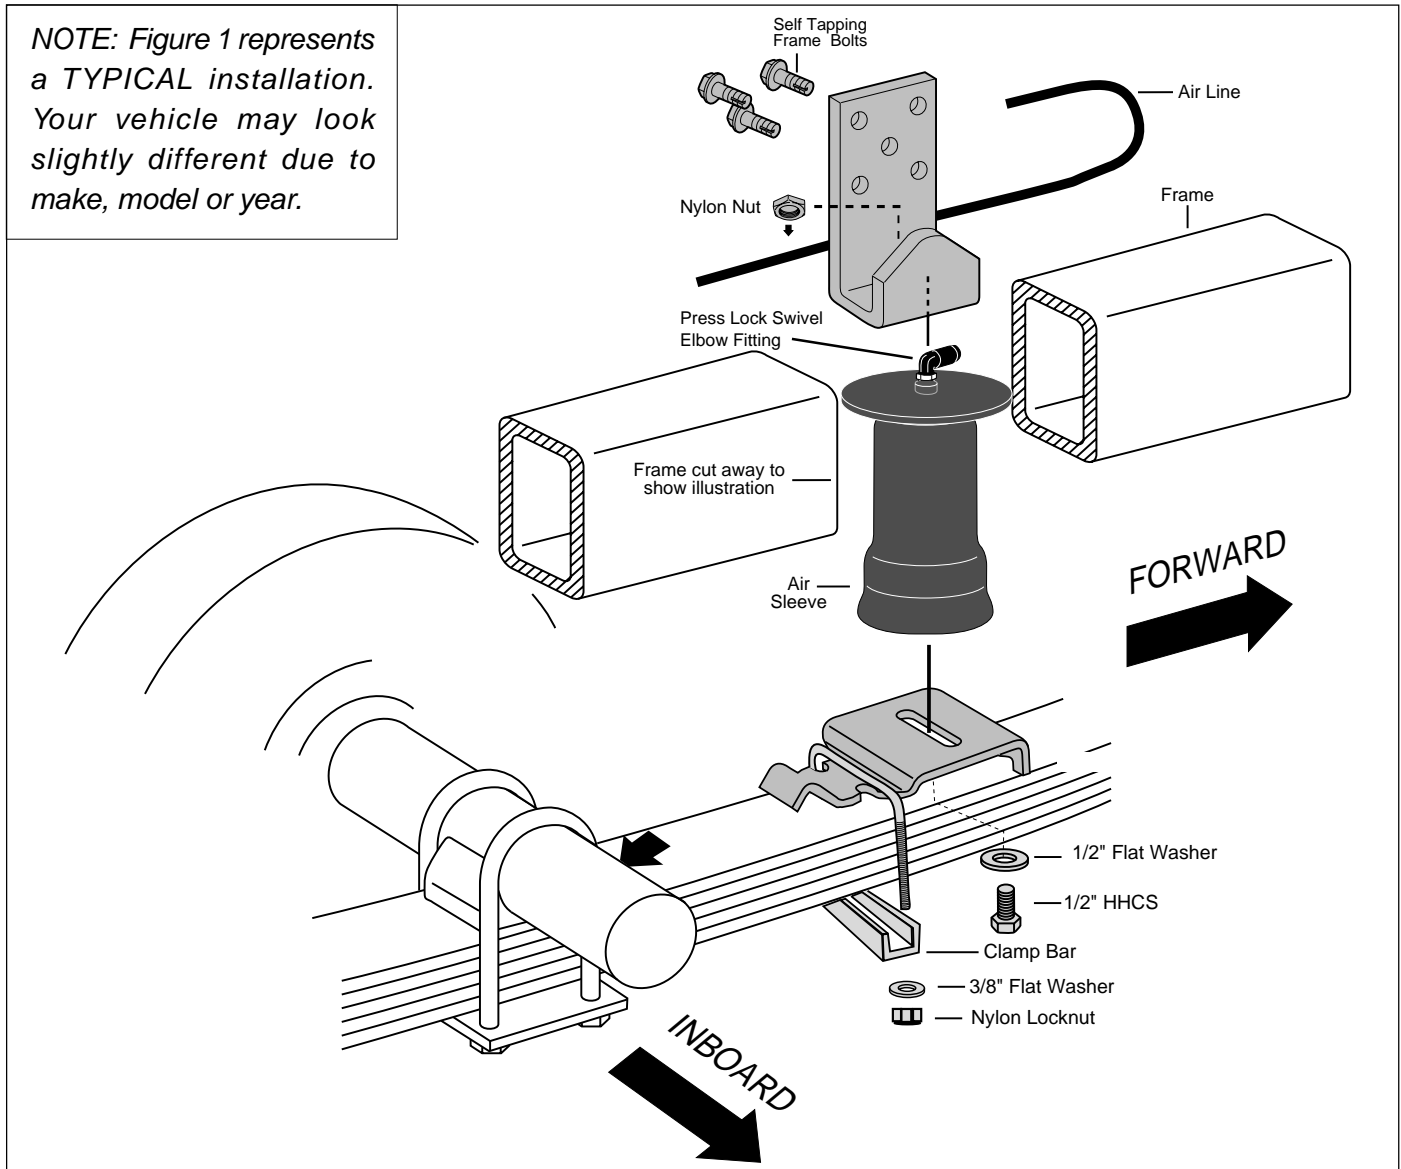
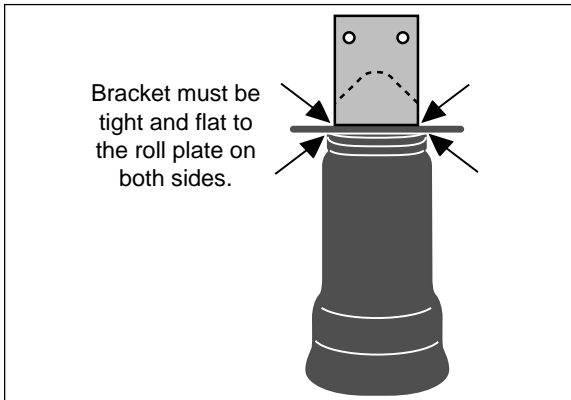
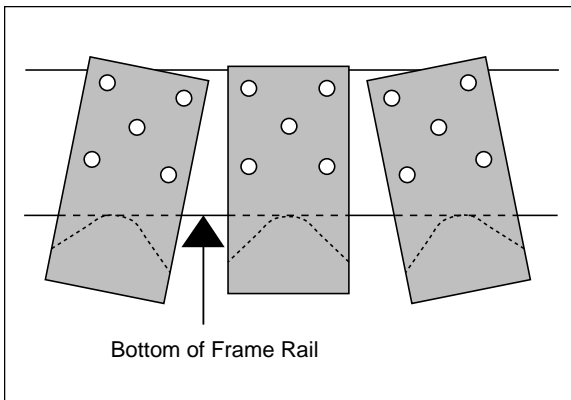
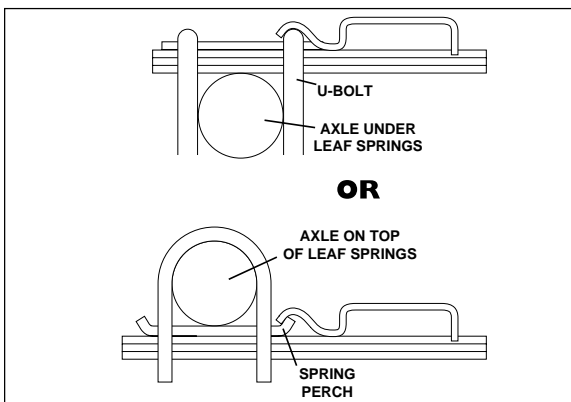

Figure 1
Figure 3
Figure 4
Figure 5
2. Install swivel air fitting to the top of the sleeve and tighten finger tight plus 1 1/2 turns. Use a 7/16" open end wrench being careful to tighten on the metal hex nut only. *Do not overtighten.* This fitting is pre-coated with thread sealant. Now set the upper bracket onto the thread post of the air spring. Thread nylon nut onto the thread post with the flat side up. The bracket must be tight and flat to the roll plate on both sides. Hand tight is sufficient (Figure 3). Be sure the swivel air fitting faces the front of the vehicle. *Loosely* attach the lower bracket to the bottom of the air spring (Figure 1).
3. Set the assembly on the leaf spring in front or behind depending on what would interfere with function of kit. It is permissible to stagger kit also, in case shocks or brake lines that interfere with kit. The lower bracket has a "finger" that is designed to "hook" around something like a U-bolt, spring retainer, or spring perch (Figure 5). This keeps the lower bracket from "walking" up the spring which would cause damage to the air springs. If the vehicle does not have something for the "finger" to "hook" to, install the L-bracket supplied in this kit for that function. Refer to SB-171 for instructions on how to install the L-bracket. With lower bracket in place install U-bolt, clamp bar, flat washer and locknut. Torque to 16 ft-lbs (Figure 1).
- The upper bracket must be parallel and perpendicular to the lower bracket (Figure 6). The upper bracket is designed so that it can be "titled" for the proper angle (Figure 4). The bottom of the upper bracket must fit tight to the bottom of the frame rail (Figure 7). It is necessary to use at least three of the five predrilled mounting holes in the upper bracket. Any combination of three is permissible. **CAUTION:** Do not drill any holes into the frame until all hydraulic lines, gas lines, and electrical wires have been moved aside on both sides of the frame rail. Using the bracket as a template, center punch and drill three $\frac{5}{16}$ " holes. **NOTE:** The holes must be no larger than $\frac{5}{16}$ ". Attach the upper bracket using the self-tapping frame bolts and tighten securely (Figure 1). Do not over tighten.